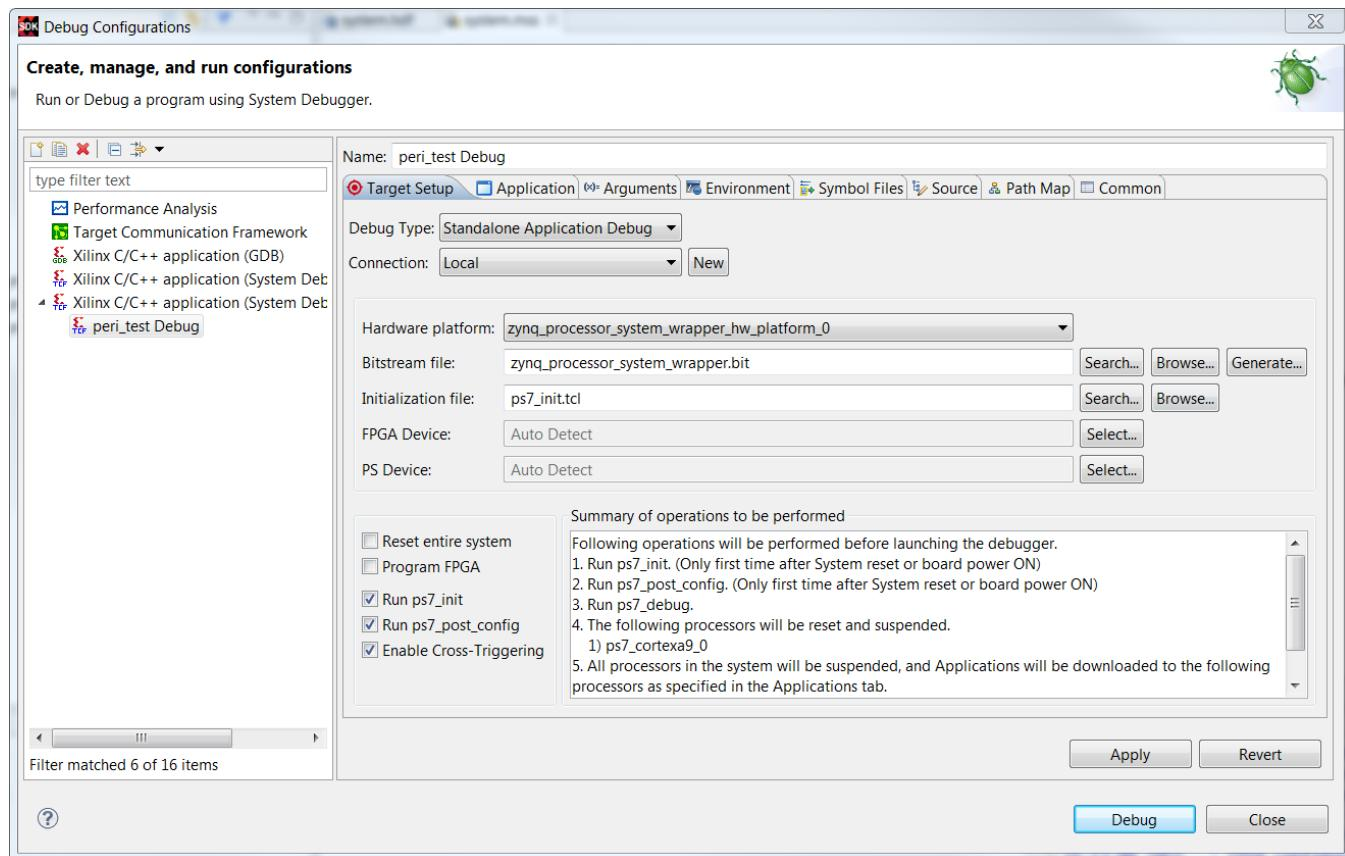

Figure 78: Enable Cross-Triggering
12. Click **Debug**, as shown at the bottom of Figure 78.